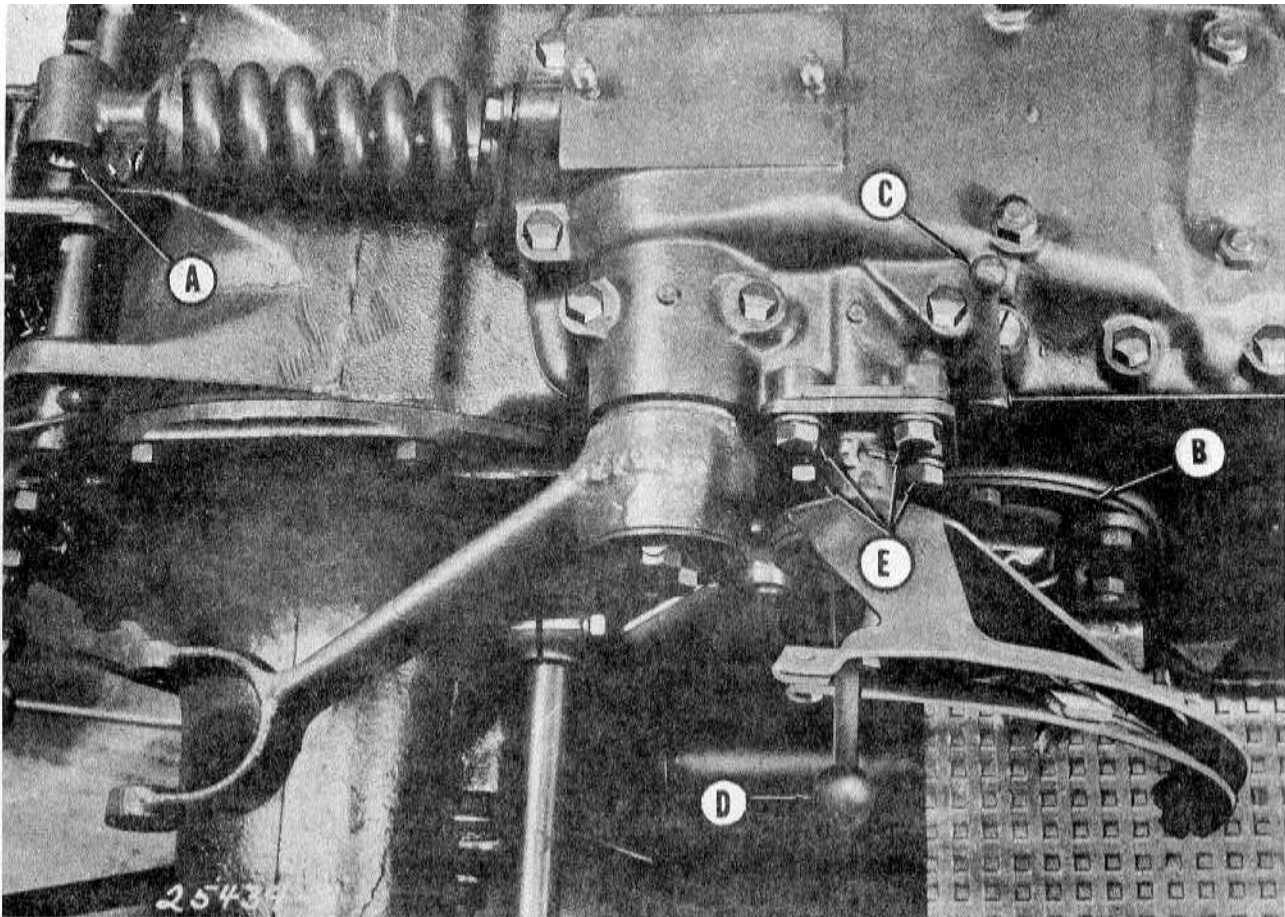
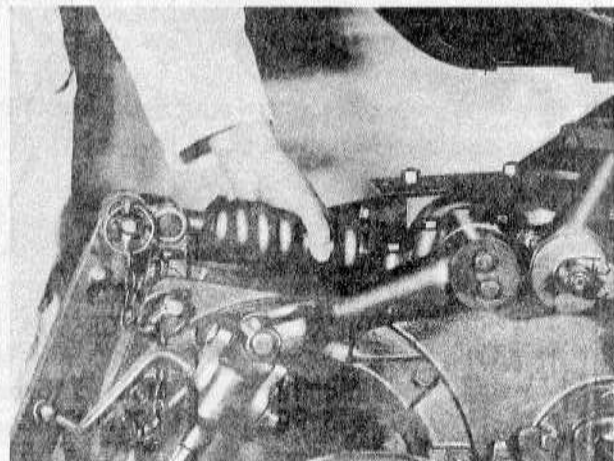

Fig. 2
Fig. 3
Step 3—Turn the control spring yoke (A-Figure 2) until there is no end play in the spring. (It should be possible to turn the spring by hand using pressure of the thumb and the first two fingers. See Figure 3.)
Step 1—Remove the inspection plate (B-Figure 2) from the right side of the center housing.
Step 2—Disengage the implement position control lever (C-Figure 2) by pushing forward to the down position.
opening, and with the right hand slowly raise the touch control lever (D—Figure 2) toward the top of the quadrant. Determine by feeling when the intake valve end of the control valve lever just contacts the pump housing.
NOTE: If the quadrant adjustment is correct, the control valve lever will just touch the pump housing when the touch control lever is in the position shown in (D—Figure 2).
- (1) Loosen the (4) cap screws (E—Figure 2) in the quadrant support plate.
- (2) Move the quadrant assembly rearward, until the control valve lever contacts the
Step 1—Recheck the main control spring adjustment as shown in Figure 3.